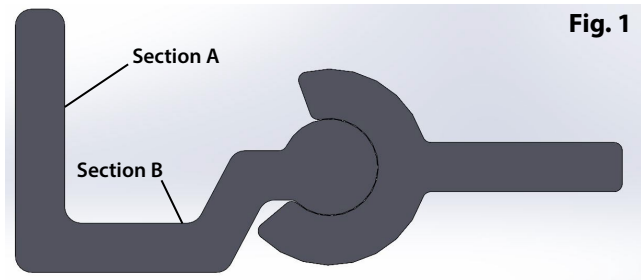

Fig. 1
1. With section A of the window well cover against the foundation, place the cover centered on top of the window well. (Shown in Fig. 1)